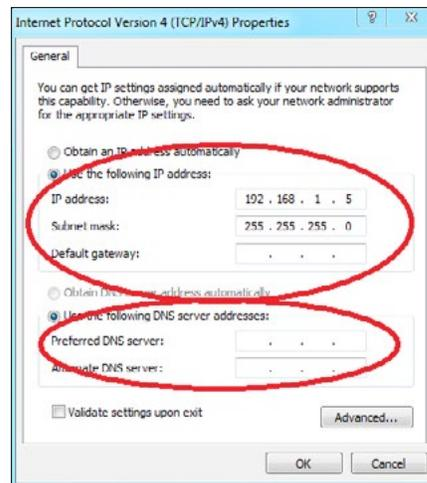

Figure 10: Internet Protocol Properties Window
- c.) Blank out the Default gateway setting (leave the setting blank as shown in **Figure 10**).
- d.) Blank out the Preferred DNS server setting and the Alternate DNS server setting (see **Figure 10**).